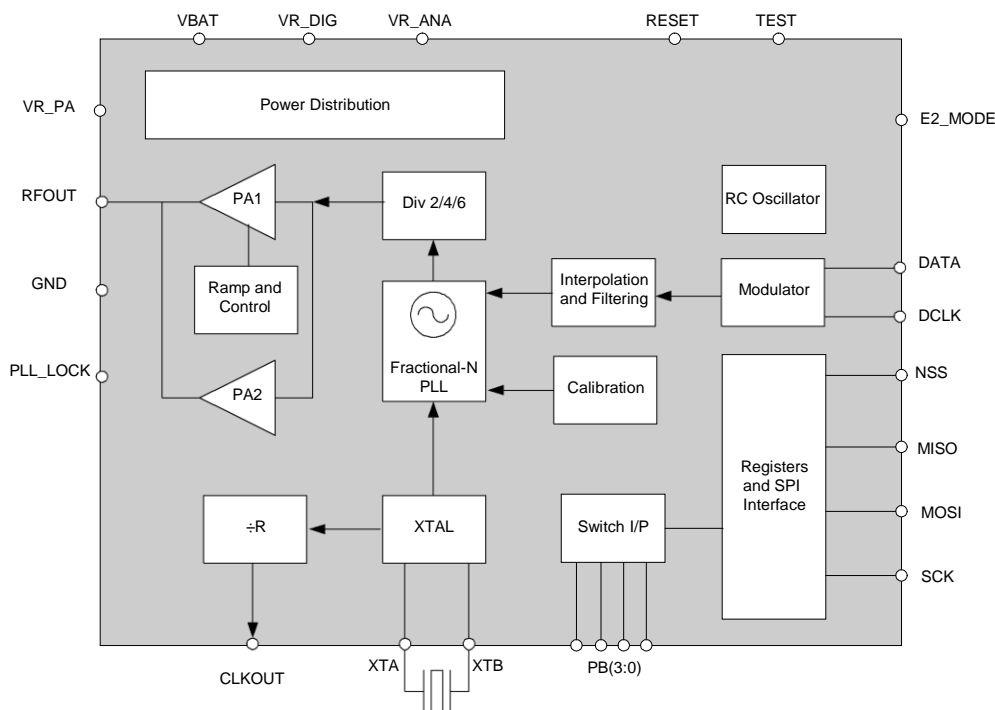

Figure 1. RF67 Simplified Block Diagram
The general architecture of the RF67 is shown in Figure 1. The frequency synthesizer generating the LO frequency is a third-order fractional-N sigma-delta PLL. The PLL is capable of fast auto-calibration and offers fast switching and settling times. For frequency modulation ((G)FSK and (G)MSK), the modulation is performed within the PLL bandwidth. Optional pre-filtering of the bit stream may also be enabled to reduce the power delivered to adjacent channels.